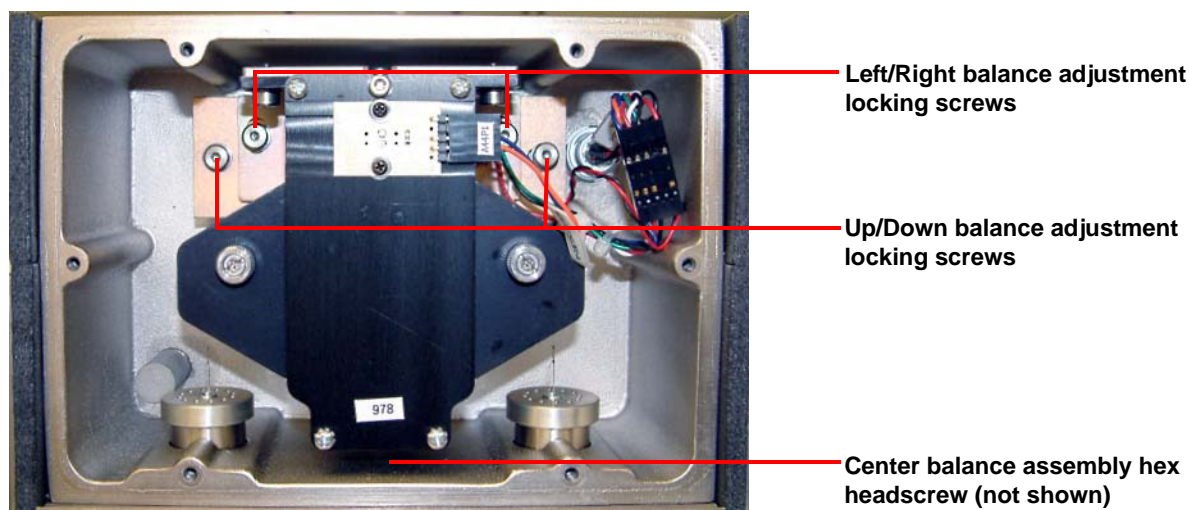

Figure 29 Balance alignment locking screws.
- a Turn the center balance assembly hex head screw until it touches the floor of the chamber; this is done to prevent the balance assembly from dropping in step b. See Figure 29 for the location of the screw.